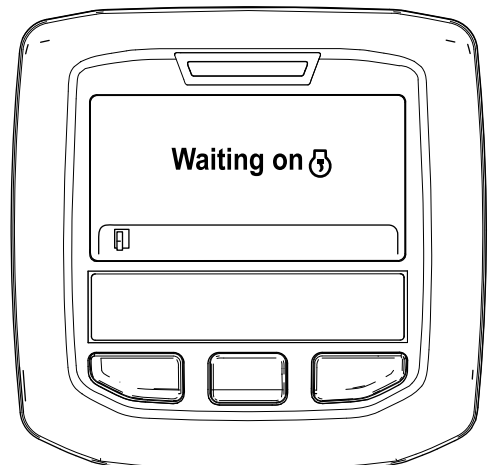

Figure 32
- B. The "Waiting on [engine icon]" message displays (Figure 32).